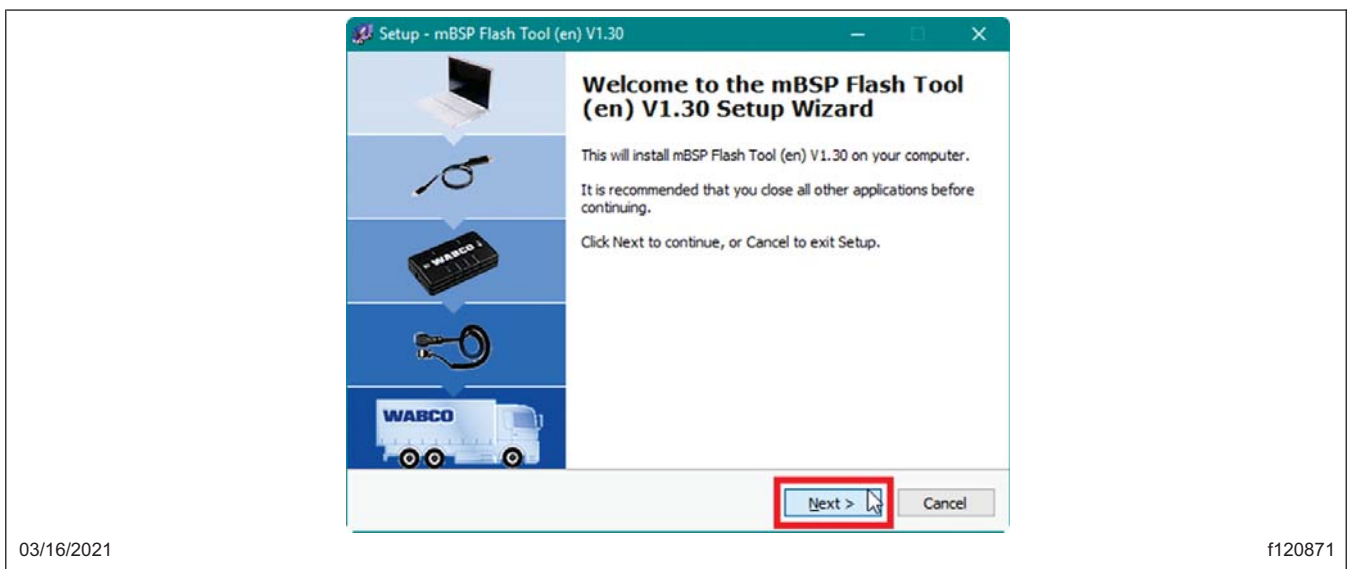

Fig. 11, Navigating the mBSP Flash Tool Setup Wizard
7.5 The pop-up window 'Welcome to the mBSP Flash Tool Setup Wizard' will appear. Select 'Next.' See Fig. 11.